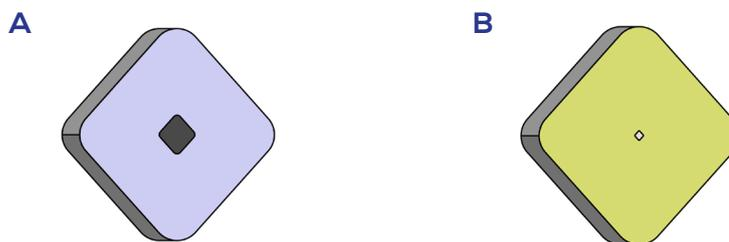

Figure 6. Chip faces. A) Cavity side; B) Aperture side.
- Identify the cavity side of the chip, shown in Figure 6 below. The cavity side has a visibly larger hole.